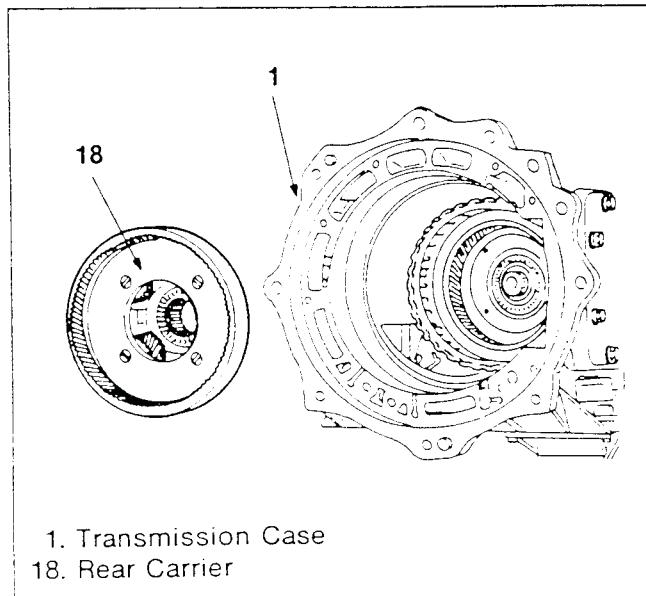

Figure 261. Rear Carrier Installation (2)
- Attach the rear carrier to the rear internal gear (figure 261).